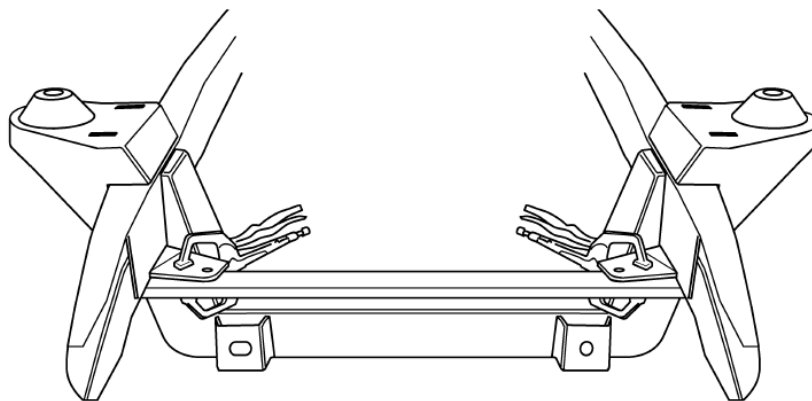
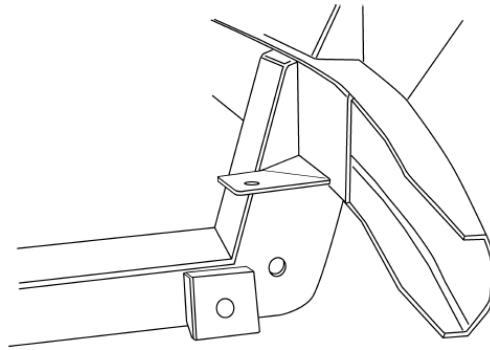

Figure 7- Radiator Support Tabs
Figure 8- Radiator Mounting Surface
- 9.) The radiator support tabs are next. Clamp the two tabs to a flat bar as shown in **Figure 7**. They should be spaced so the holes are spaced 19-3/16" apart, center to center. Position the tab and bar assembly up into the frame, so the outer edge of the tab is against the inside bottom edge of the frame. If they fall under the frame, grind the outside edge of the tabs so the edges of the tabs end up inside the bottom inside edge of the frame rail. You will see that the actual radiator mounting surface is tilted back, to give the radiator the correct mounting angle. You will see that the actual radiator mounting surface is tilted back, to give the radiator the correct mounting angle. (See **Figure 8** on next page) Tack weld in place, and test fit your radiator if possible. If not, wait to weld these in place until you can.